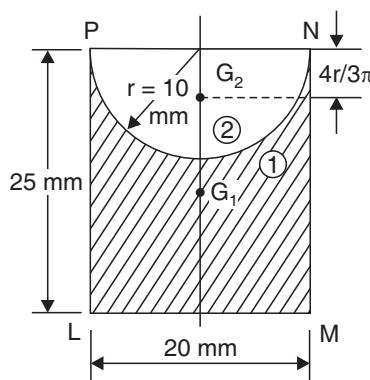

Fig. 8.30
**Example 8.10.** Determine the moment of inertia of the shaded area about the edge  $LM$  as shown in Fig. 8.30.